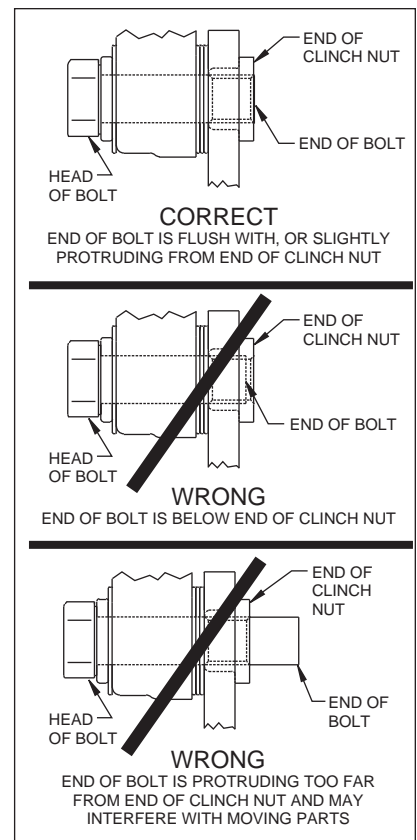

Figure 5. Clinch Nut Engagement Diagram
- **NOTE:** Please reference the caution statement at the beginning of the assembly instructions. WITH THE BLEED SCREWS POINTING UP, mount the caliper (5) over the rotor (2) and onto the customer supplied caliper mounting bracket using washers (6) and mounting bolts (7). View the rotor through the top opening of the caliper. The rotor should be aligned in the center of the caliper. If not, adjust the caliper by using 0.032 inch shim washers (8), placing them between the caliper mounting bracket and the caliper (5). Add as many shim washers (8) as necessary to achieve the correct alignment. **NOTE:** The end of the bolt must be flush with or slightly protruding from the head of the clinch nut. See Figure 5. Place spare shims (8) between washer and caliper mounting ear to achieve the proper mounting fastener configuration. Always use the same amount of shims on both the top and bottom caliper mounting bolts (7). Apply red *Loctite*® 271 to the mounting bolt threads (7), torque bolts to 30 ft-lb. Safety wire the caliper mounting bolts (7).
- Position the Wilwood disc brake pads (9) into the caliper (5) and fasten with cotter pin (10). Steel backing plate side of brake pad should face the caliper pistons.